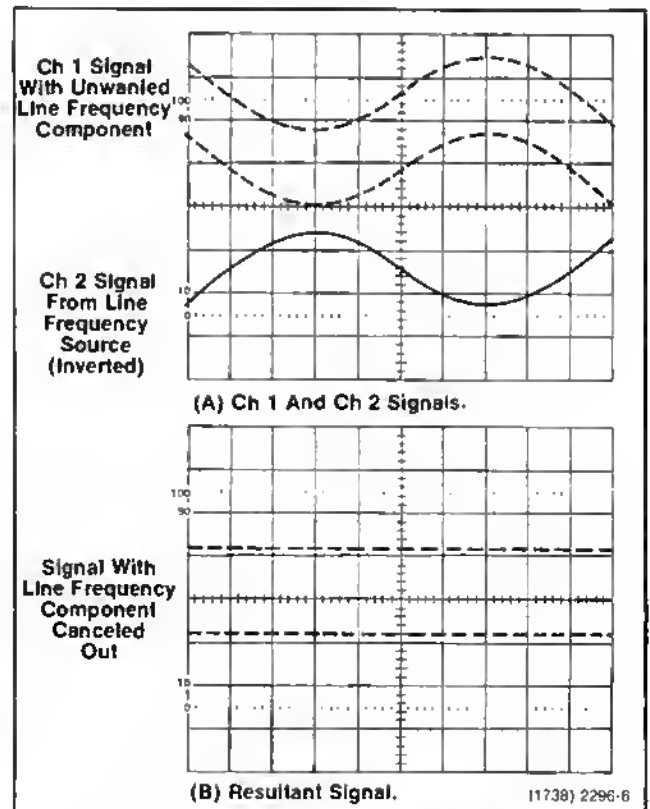

Fig. 1-5. Common-mode rejection measurements.
The displayed signal contains an undesired line-frequency component (see Fig. 1-5).
5. Set the DISPLAY switch to 1+2 and re-adjust the channel 2 CAL variable control for maximum rejection of the undesired signal component (see Fig. 1-5).